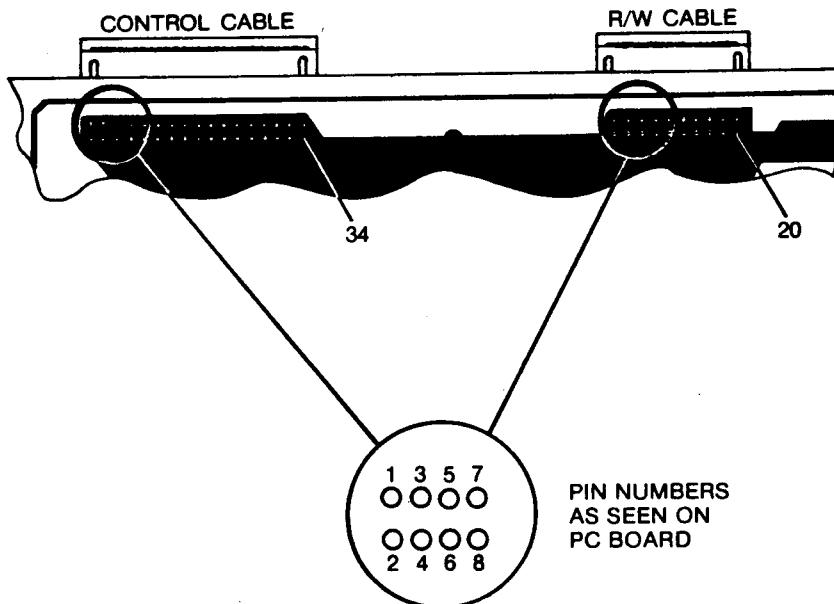

Figure 7-3
- e. Check for the presence of the DS 1 (low) signal level at pin 26 of the control cable connector on the controller board (Figure 7-3). If the signal is incorrect, the controller is faulty. If the signal is correct, proceed with step 2f.
- a. Check for the presence of the drive status signals listed in Table 7-4 at the control cable connector on the controller board (see Figure 7-3).